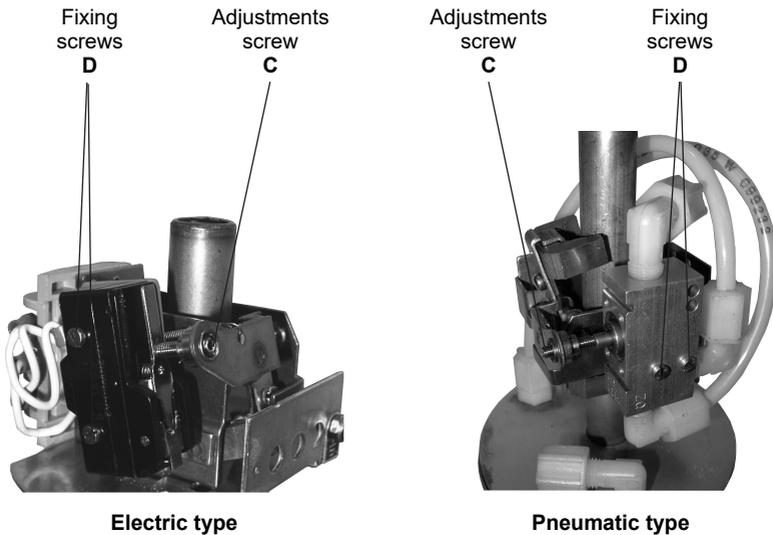

Fig. 7 - Electrical and pneumatic switches
This operation is performed by changing the position of the switch mechanism. In the devices fitted with one or two switches of types 1, 2 and 3, it is possible to move the mechanism/s up to 50 mm upwards when the device is fitted with only one switch mechanism and up to 25 mm when it is fitted with two mechanisms. This operation is required when the switching values are to be raised without modifying the process attachments. In order to move the mechanism, the fastening screw (Fig. 7) has to be loosened in order to enable the switch to run freely along the enclosing tube.
- 2 - Loosen the plate locking screw (only for the lower mechanism) and the fixing screw (see Fig. 7) and extract the switch mechanism from the enclosing tube.
- 2a - Mercury switch (see Fig. 7)
- 2 - Remove the locking screw "D" (Fig.7) and then the valve.
Check the alignment between the adjusting screw "C" and the microswitch actuating lever (Fig. 7).